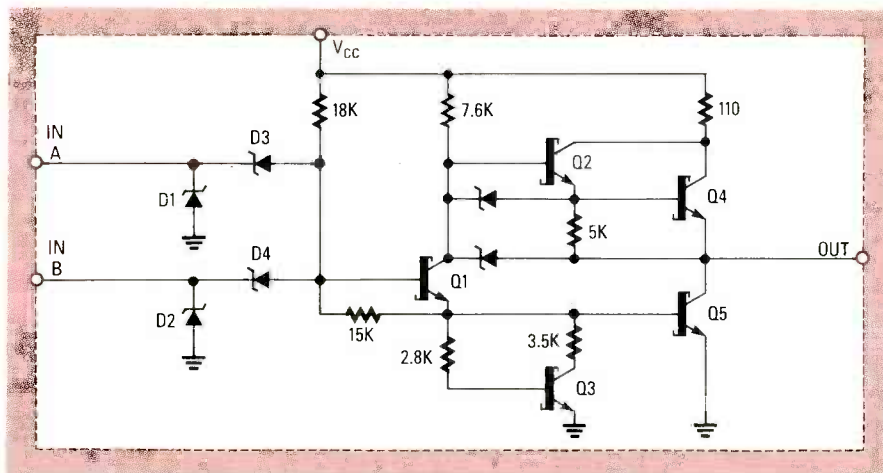

FIG. 3—ALL INPUTS of a low-power Schottky device have Schottky clamping diodes to control ringing.
The design of a low-power Schottky (LS) device varies somewhat from a traditional TTL design in that the input logic transistor does not have multiple emitters. Instead, Schottky barrier diodes are attached to the base of the input transistor, with each diode representing an input. A schematic of a typical low-power Schottky gate is shown in Fig. 3.
All inputs are provided with Schottky clamping diodes, as shown in Fig. 3. Those diodes conduct when the input signal to the device goes negative, which limits undershoot and helps to control ringing.
Looking at Fig. 3, we see that as the input voltage to input A approaches ground, increasing amounts of current flow through D3 until it reaches  $I_{IL}$ . Beyond that point, the input voltage starts swinging negative, as would be the case if the input signal suffered from ringing. That effectively places ground at a positive voltage and the logic input at a negative voltage, forcing diode D1 into forward conduction. The input voltage is now clamped at the forward voltage drop of D1, which effectively dampens any ringing that may be present on the input signal.
Referring back to Fig. 3, note that the base of pull-down output transistor Q5 is returned to ground through Q3 and a pair of resistors instead of through a simple resistor. That arrangement is called a squaring network because it squares up the transfer characteristics of the logic transitions by preventing Q1 from conducting until the input voltage rises high enough to allow Q1 to supply sufficient base current to Q5 for a snappy transition.